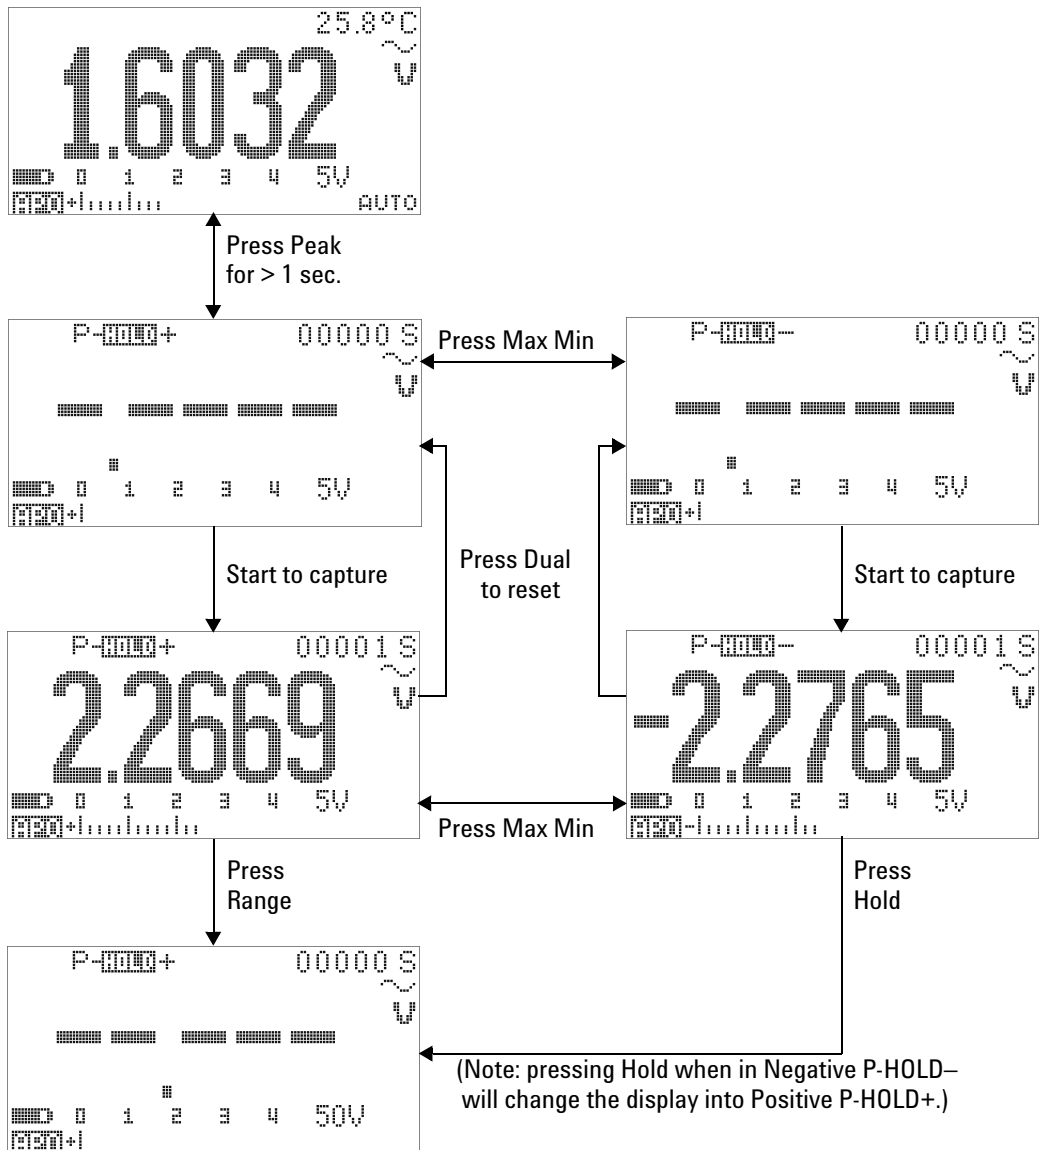

Figure 3-7 1 ms peak hold mode operation
- 4 In the measurement example shown in Figure 3-7 on page 74, the crest factor will be $2.2669/1.6032 = 1.414$.